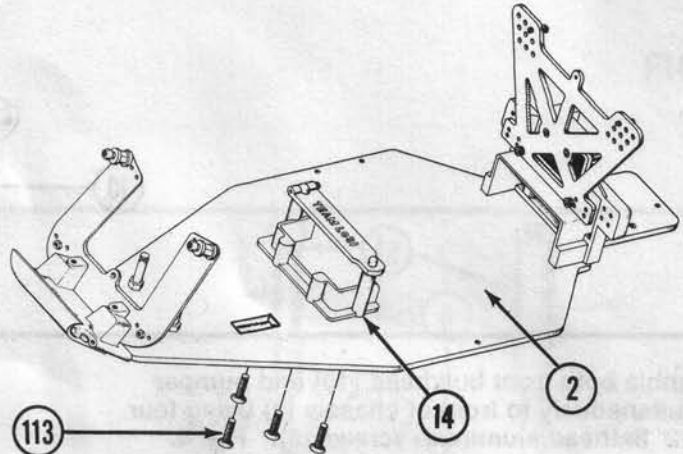

FIG. 6
15. Secure battery box (14) to chassis (2) using four 8-32 x 3/8" flathead aluminum screws (113) Fig. 6.